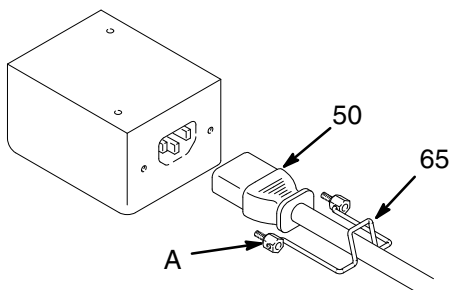

Fig. 2
1. **Plug the power cord (50)** into the inlet receptacle located below the motor. Tighten the screws (A) of the cord wire clamp (65) securely. See Fig 2. If the power cord you are using does not have a male plug attached, have a qualified electrician install an appropriate plug.